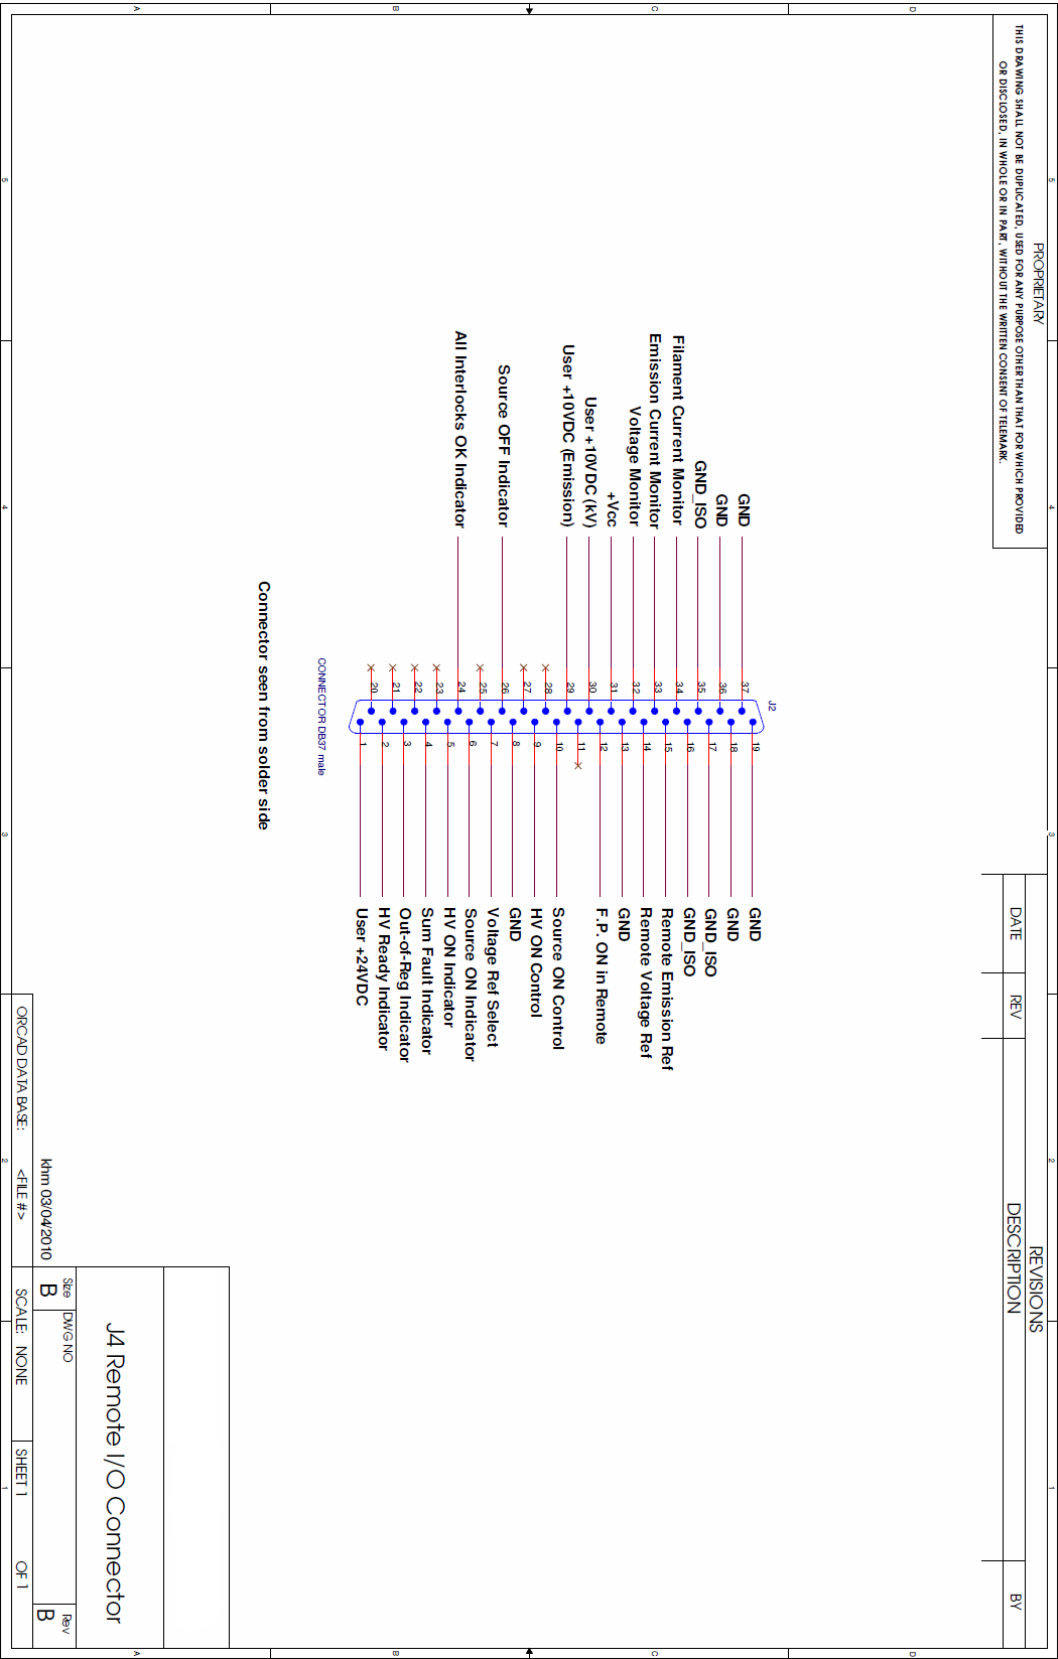

Figure 9-5, J4 Remote User I/O Connector
- Figure 9-5 SVA-4/6/8/10/12, Square Connector, 400VAC J4